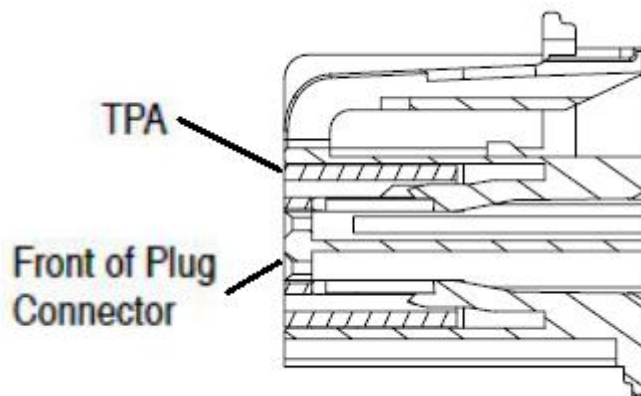

Fig 8.
- (1) Verify that the TPA is in the pre--staged position (un--locked). Prior to installing the contacts, the TPA and the front of the connector should be almost flush with each other. See Fig 8.